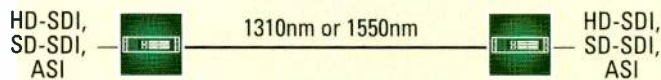

Figure 1. Venue or studio to production facility over owned/leased fiber
- *Configuration 1.* A simple point-to-point video connection over dark fiber. (See Figure 1.)